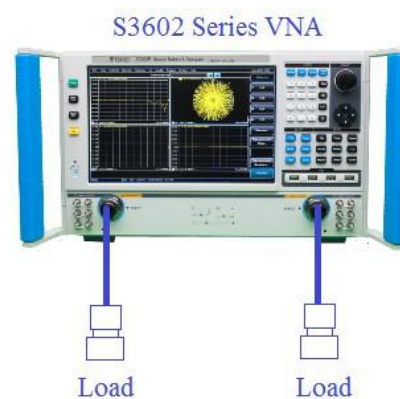

Fig. 11.9 Block Diagram II of Dynamic Range Calibration Test of System
- 9) After through type calibration, as shown in Fig. 11.9, disconnect the tow cables and connect loads to two calibration cable ports.